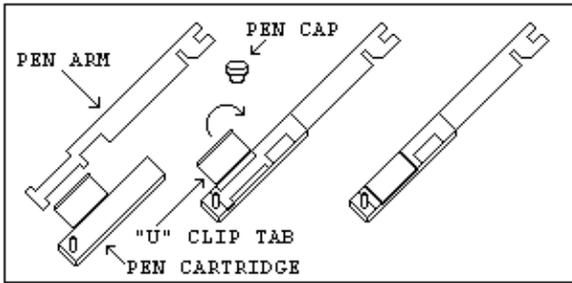
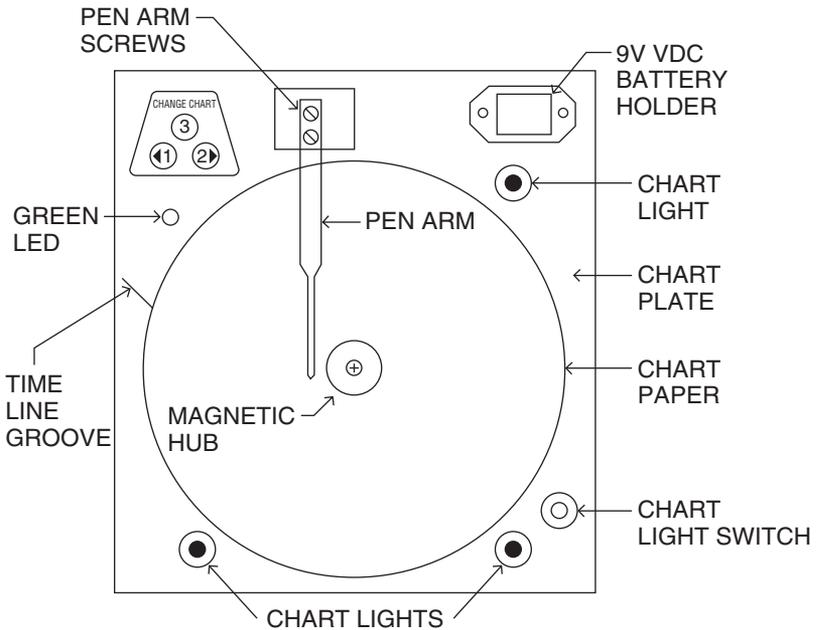

Figure 2.4 Pen Replacement
Figure 2.5 Recorder Plate Layout/Battery Installation
Press and release the CHANGECHART key (3 on Figure 3.1). The pen(s) will move to the left of the chart and green LED will flash rapidly. Wait until the pen(s) stops above outer ring AND green LED goes to on steady. Unscrew the chart "hub" knob at the center of the chart. Remove the old chart paper and position the new one so that the correct time line coincides with the time line groove on the chart plate. Refer to Figure 2.4 for the location of the time line groove.
For ease of replacement, it is suggested that the two (2) screws that hold the pen arm be loosened and the pen cartridge and metal pen arm be removed as an assembly. Refer to Figure 2.5 for the location of the pen arm screws. Unsnap the plastic "U" clip tab of the pen cartridge from the metal pen arm, remove and discard the old pen cartridge. Replace the new cartridge by opening the hinge and snapping it securely around the metal pen arm. Refer to Figure 2.4 for pen cartridge replacement.
The battery strap and battery holder are located on the front of the chart plate (refer to Figure 2.5). In order to change the battery, you must open the recorder case door. Note: Use only NEW 9 volt alkaline replacement batteries.